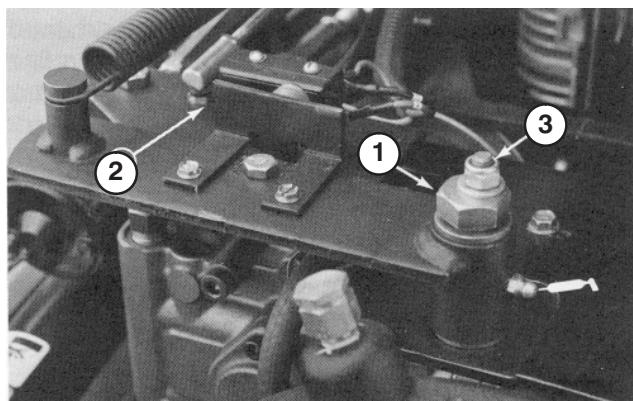

Figure 33
4. Slightly loosen the locknut on the top of the neutral adjustment cam (Fig. 33) and rotate the cam hex until the traction wheel stops rotating. Tighten the locknut.
7. Set the hole spacing control in the lowest setting (to the left) and move the transport/aerate switch to the aerate position (transport tires retracted). Loosen the 2 screws and adjust the switch tab (Fig. 33) so that the switches are actuated when the pump control is in neutral and not actuated when the pump is stroked.